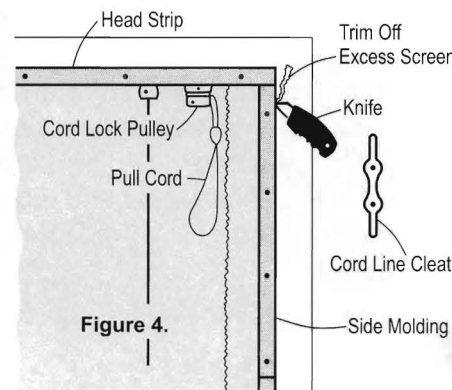

Figure 4.
4. Start nails in side molding about 8" apart; place molding on side facing over screen; hold screen snug but not tight. Be sure zipper is straight and that zipper on each side is fully zipped down. Now nail top half of molding in place. With a saw trim lower half to fit then nail in place. Do other side the same way. See Figure 4.